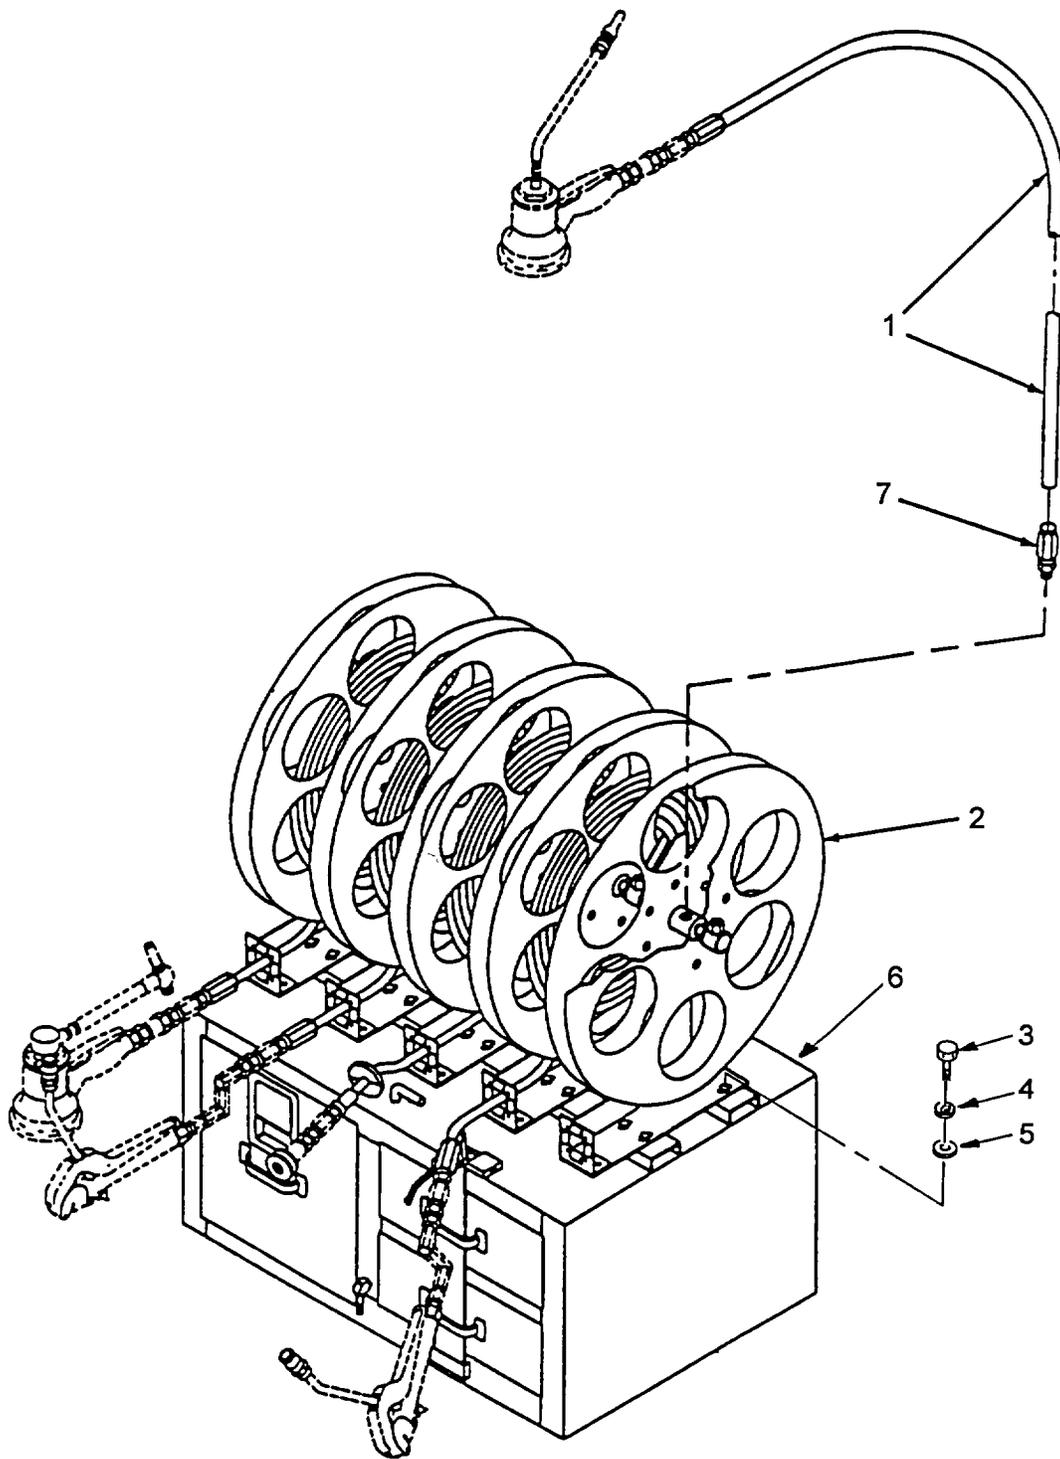
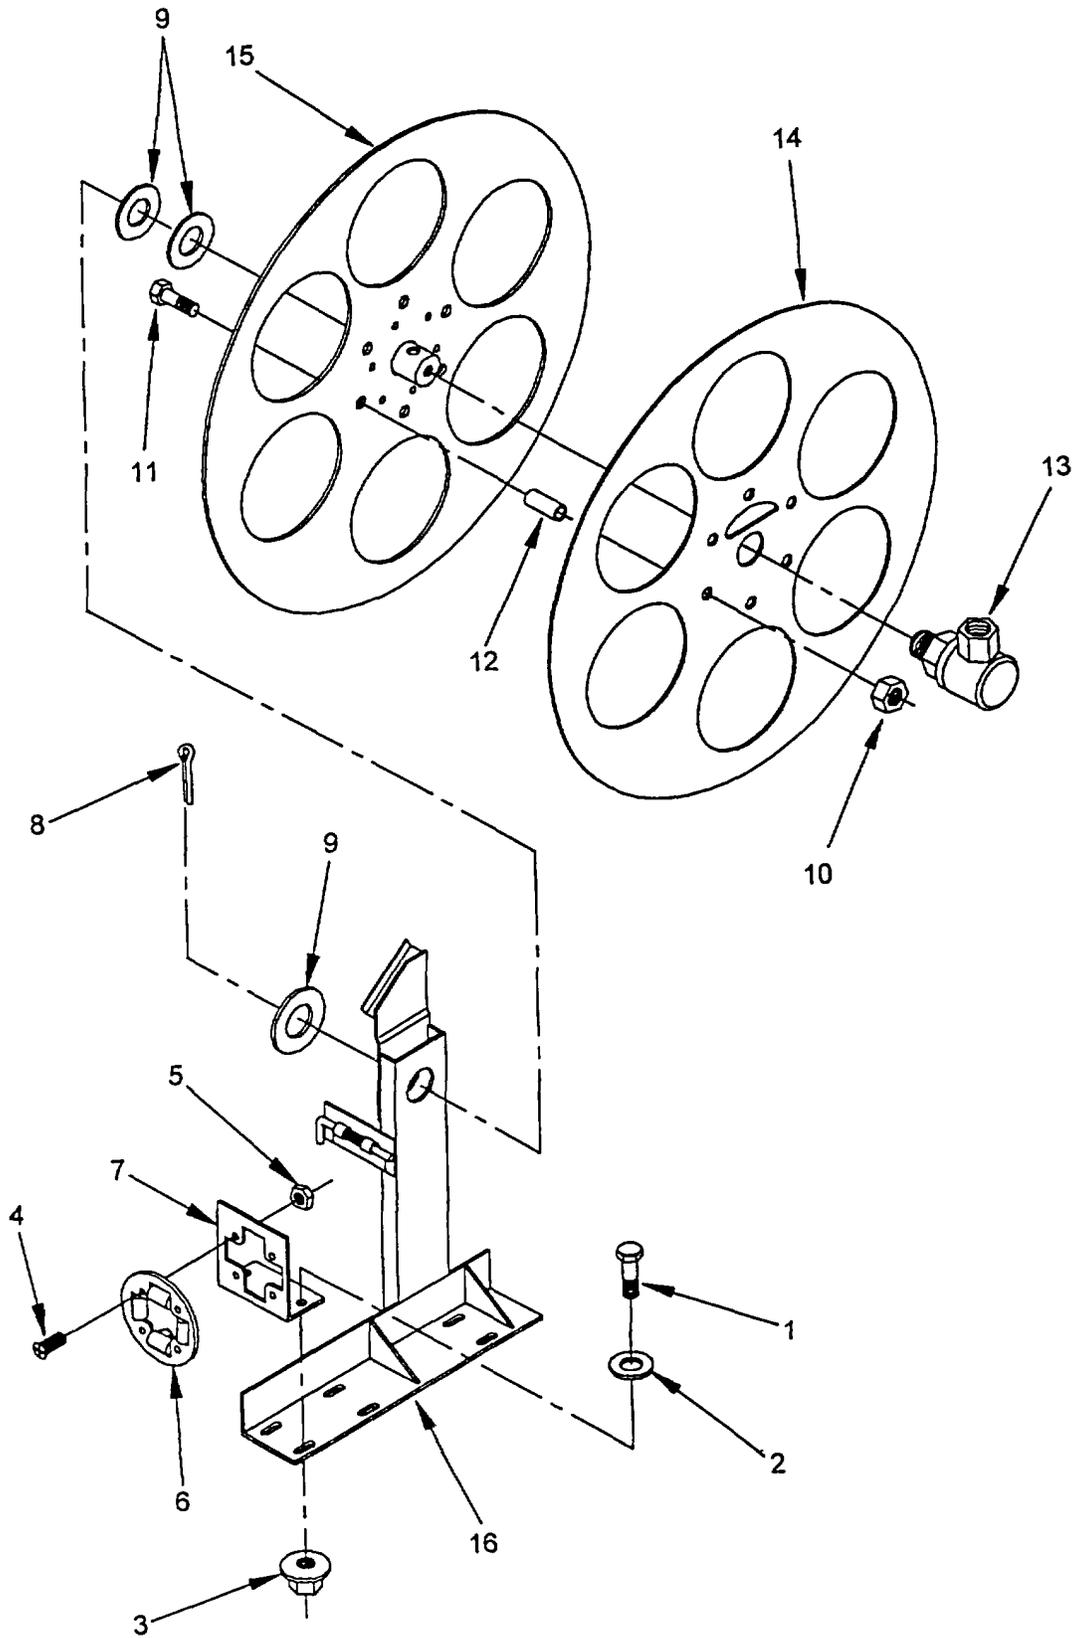

Figure 4-14. Reels and Hoses
Figure 4-15. Reel Assembly
a. Removal. (Refer to Figure 4-14).
- (1) Unspool hose assembly (1) from reel assembly (2). This makes reel lighter.
- (2) Remove four bolts (3), four lockwashers (4), four flat washers (5) from reel cabinet assembly (6). Remove reel assembly (2). Discard four lockwashers (4).
- (3) Remove hose assembly (1) from reel assembly (2) by loosening male fitting (7).
- (4) Remove male fitting (7) on both ends of hose.
b. Disassembly. (Refer to Figure 4-15.)
- (1) Remove capscrew (1), washer (2) and locking nut (3) to remove complete roller assembly. Disassemble roller assembly by removing screw (4), locknut (5) and roller (6) from bracket (7).
- (2) Remove cotter pin (8) and washers (9) to separate the reel from bracket (16).
- (3) Remove locking nuts (10), capscrews (11) and spacers (12).
- (4) Remove swivel (13) and separate reel halves (14 and 15).
## d. Assembly. (Refer to Figure 4-15.)
## e. Installation. (Refer to Figure 4-14.)